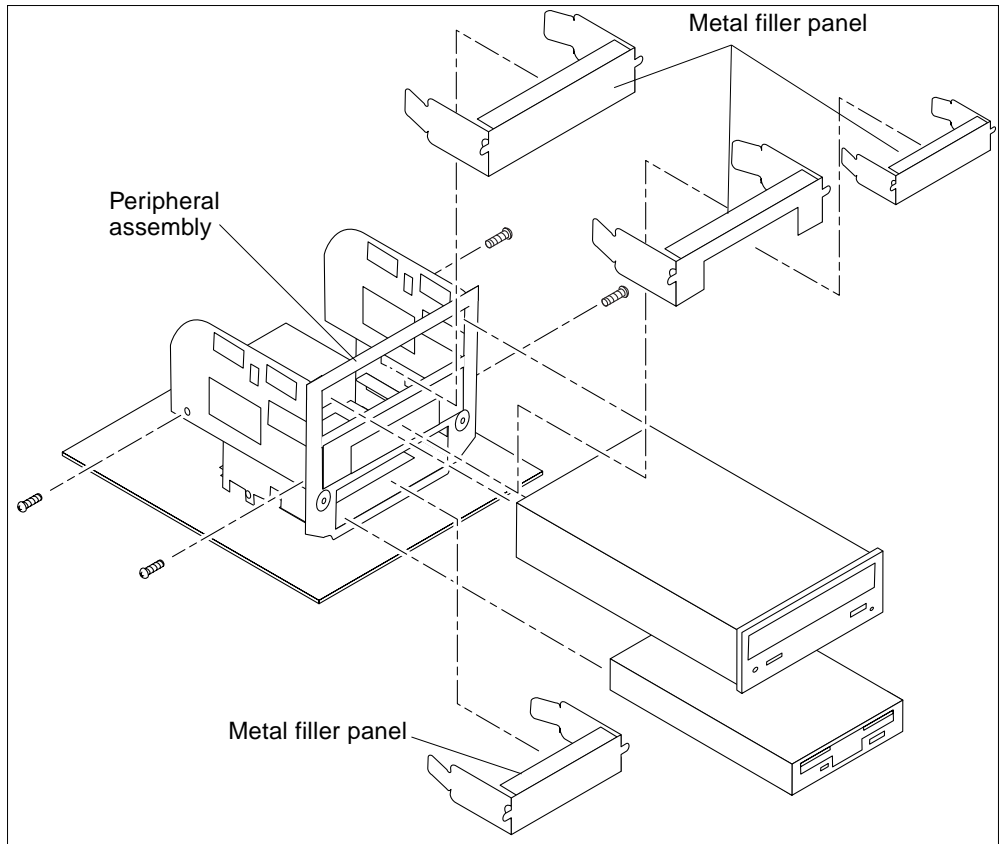

FIGURE 7-16 Removing and Replacing Metal Filler Panels
3. Use your fingers to remove the metal filler panel from the peripheral assembly (FIGURE 7-16).
- 1. Position and snap the metal filler panel into the peripheral assembly (FIGURE 7-16).**